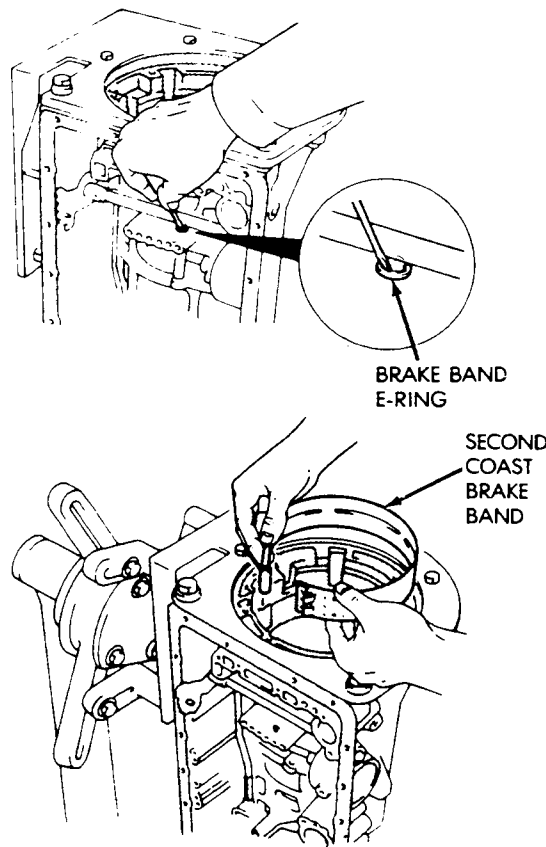

Fig. 33 Removing Second Coast Brake Band
- (41) Remove the second coast brake band E-ring from band pin and remove brake band (Fig. 33).